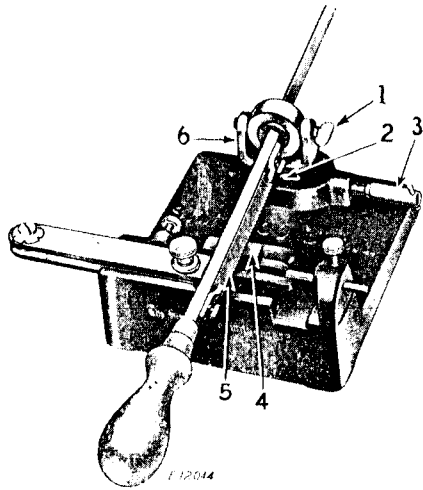

Fig. 30. Setting Hone at Proper Angle
To set the hone at the proper angle, loosen the wing screw (1, Fig. 30), rest the stone (5, Fig. 30) flat on the leveling surface (4, Fig. 30), then tighten the wing screw (1).
Loosen the adjusting screw (3, Fig. 30) and set the yoke (6, Fig. 30) as low as it will go while the end of the adjusting screw (3, Fig. 30) remains on the flat of the yoke bushing (2, Fig. 30), then securely tighten the adjusting screw (3, Fig. 30).